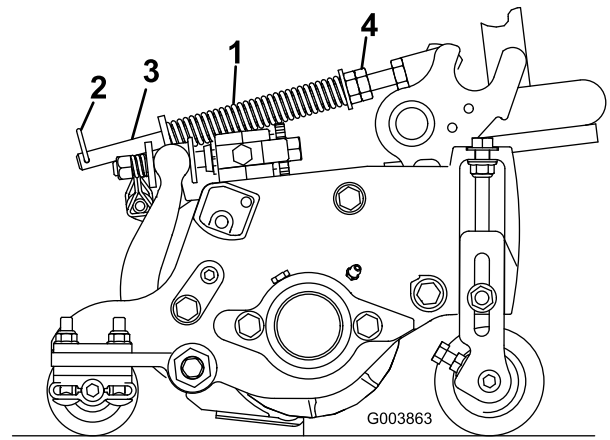

Figure 14
2. Tighten the hex nuts on the front end of the spring rod until the compressed length of the spring is 6.25 inches (15.9 cm) (Figure 14).
The turf compensation spring (Figure 14) transfers weight from the front to the rear roller. (This helps to reduce a wave pattern in the turf, also known as marcelling or bobbing.)
1. Make sure the hairpin cotter is installed in the rear hole in the spring rod (Figure 14).